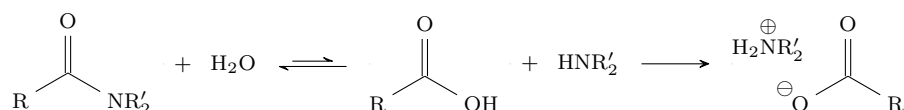

Figure 4.37: Acyl transfer: Amide hydrolysis.
- Under basic conditions, we can't form the salt in Figure 4.37, but we are still thermodynamically driven toward the more stable carboxylate (see Figure 4.20).
5. Amide hydrolysis (Figure 4.37).